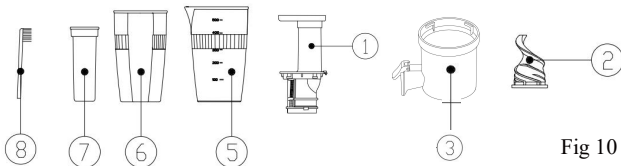

Fig 10
2. Wash the disassembled parts (Fig 10) with water. If the meshes are clogged with pulp, please use the provided cleaning brush to remove the dregs.